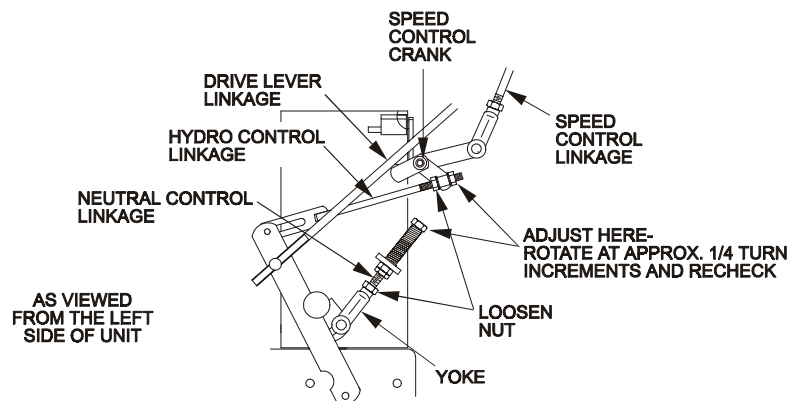
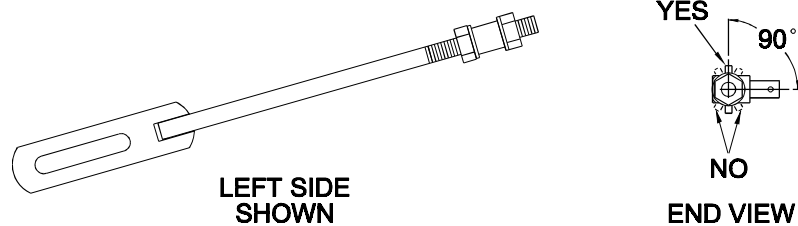

FIG. 14
FIG. 15
2. Move the speed control lever (located on the console) to the full forward position and check the orientation of the tabs on the ends of the speed control crank (Fig. 14). These tabs should be pointing straight down at the 6 o'clock position or slightly forward. Adjust the threaded yoke at the bottom of the speed control linkage (Fig. 14) until the tabs are positioned correctly.
4. Loosen the nut against the neutral control linkage yoke as shown in Figure 14.
2. Loosen the front nut on **left** hydro control linkage as shown in Figure 14. Turn the rear control linkage adjusting nut counter-clockwise until wheel rotates forward. Turn the rear nut of left control link clockwise 1/4 of a turn at a time, stopping to move the speed control forward and back to neutral, until left wheel stops rotating forward. Turn the rear nut an additional 1/2 turn and tighten the front nut making sure not to put a bind on the linkage. Make sure flat part of linkage is perpendicular to pin part of swivel. See Fig. 15.